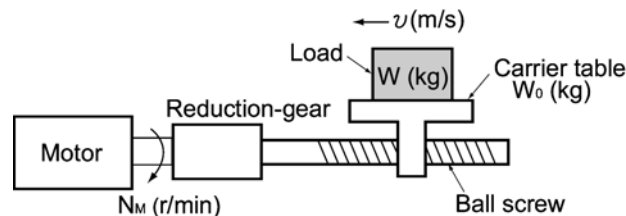

Figure 7.7 Moving a Load Horizontally
A simplified mechanical configuration is assumed as shown in Figure 7.7. If the mass of the carrier table is  $W_0$  (kg), the load is  $W$  (kg), and the friction coefficient of the ball screw is  $\mu$ , then the friction force  $F$  (N) is expressed as follows, which is equal to a required force for driving the load:
Assume a carrier table driven by a motor as shown in Figure 7.7. If the table speed is  $v$  (m/s) when the motor speed is  $N_M$  (r/min), then an equivalent distance from the shaft is equal to  $60 \cdot v / (2\pi \cdot N_M)$  (m). The moment of inertia of the table and load to the shaft is calculated as follows: